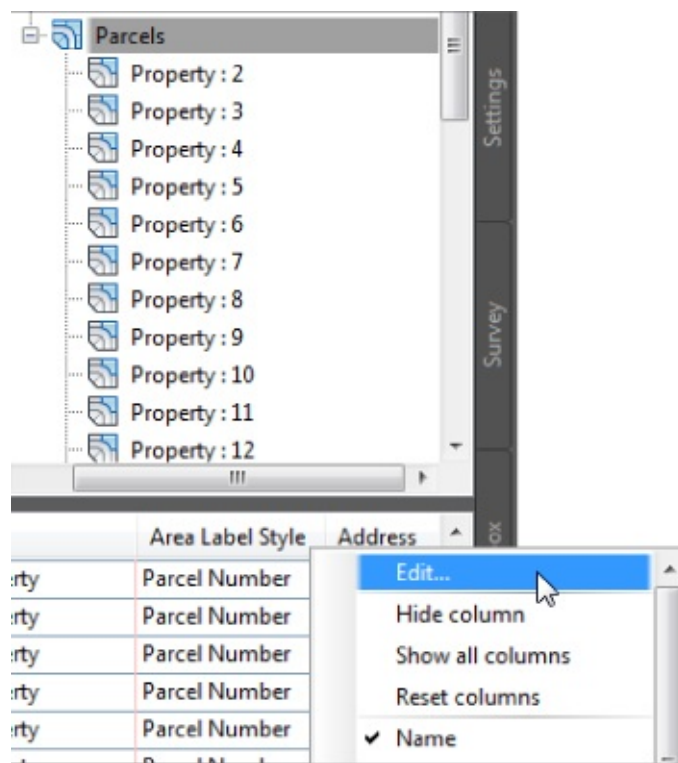

Figure 5.57 Right-click the Area Label Style column header and select Edit.
5. Slide over to the Area Label Style column, right-click the column header, and select Edit (see Figure 5.57).